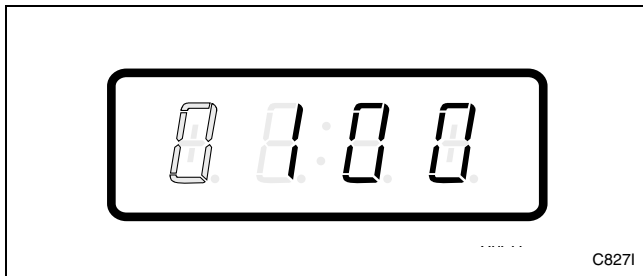

Figure 108
6. Press the START (enter) keypad to enter the fifth digit and display remaining four digits. The active digit will flash one second on and one second off. Refer to *Figure 108*.